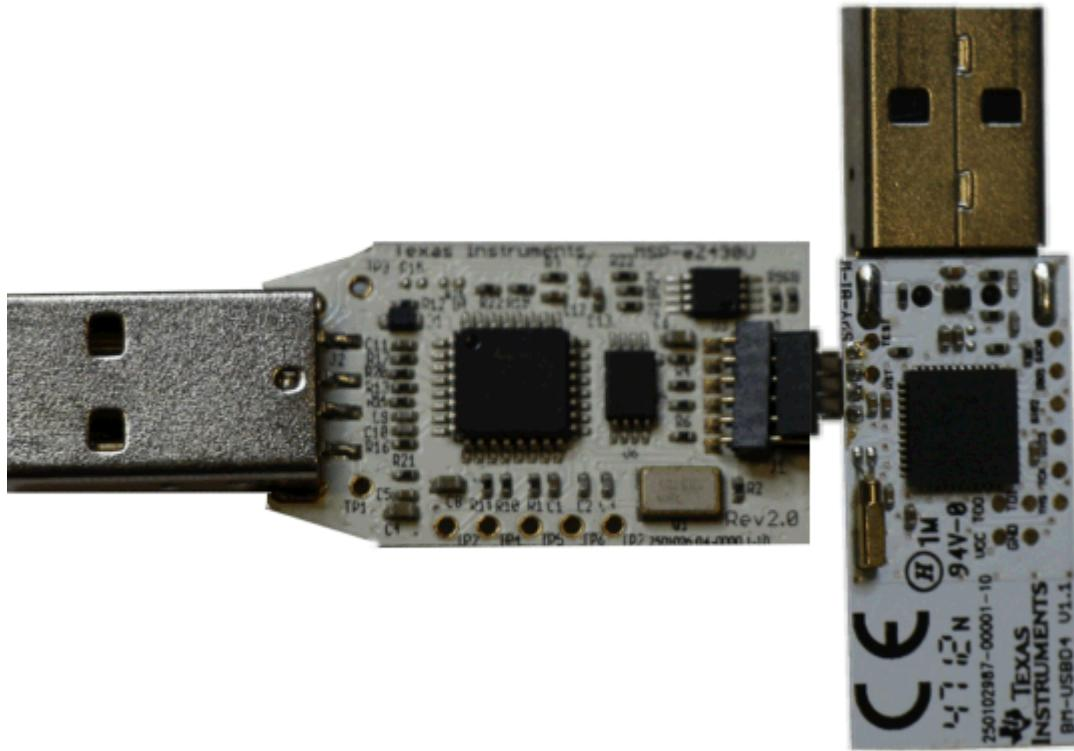

Figure 3-15. Upgrade AP Firmware
- As shown in Figure 3-15, solder the 4-pin debugger connector (provided with the kit) onto the access point.